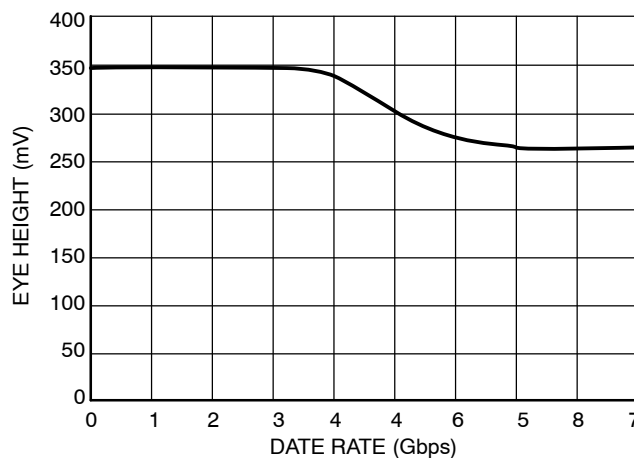

Figure 4. NB6HQ14M Eye Height vs. Data Rate
- Additive peak-to-peak data dependent jitter with input NRZ data at PRBS23. For applications requiring equalization, the vertical eye height is also a critical figure of merit. See Figure 4 for equalized eye height versus data rate.